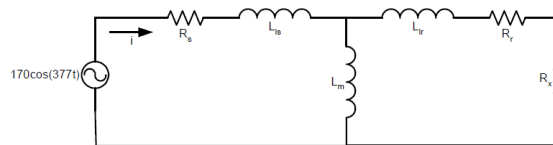

Figure 2.2 A Circuit model for one phase of an induction motor being driven by the utility
2. Figure 2.2 shows a circuit model for the utility supplying one phase of an ac induction motor. The motor system parameters are  $R_s = 0.08 \Omega$ ,  $L_{ls} = 1 \text{ mH}$ ,  $L_m = 40 \text{ mH}$ ,  $L_{lr} = 1 \text{ mH}$ ,  $R_r = 0.1 \Omega$ , and  $R_x = 33 \Omega$ . If the utility voltage is  $170 \cos(377t)$ , i) what is the current into the motor? and ii) At what power factor is the motor operating?